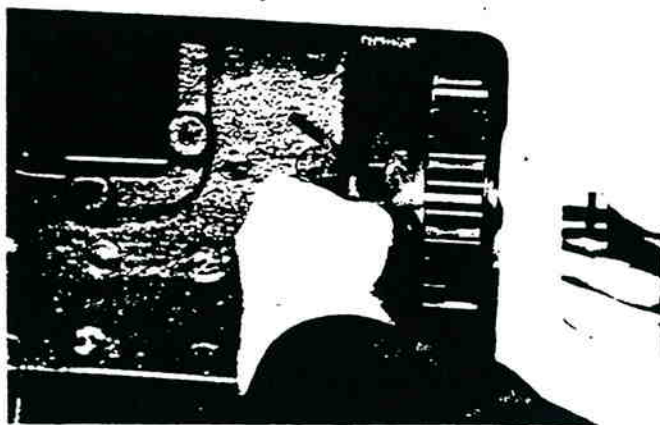

Figure 13-87. Installing Reverse Idler Gear and Shaft.
4. With the two thrust washers in position on each side of reverse idler gear, slide the idler shaft through bore in rear of case, gear, washers and bore of idler shaft support boss inside case. To make certain the slot in rear of idler shaft is properly located to secure lock plate with capscrew in case, align oil channel hole of idler shaft with that in top of idler shaft support boss (figure 13-87).